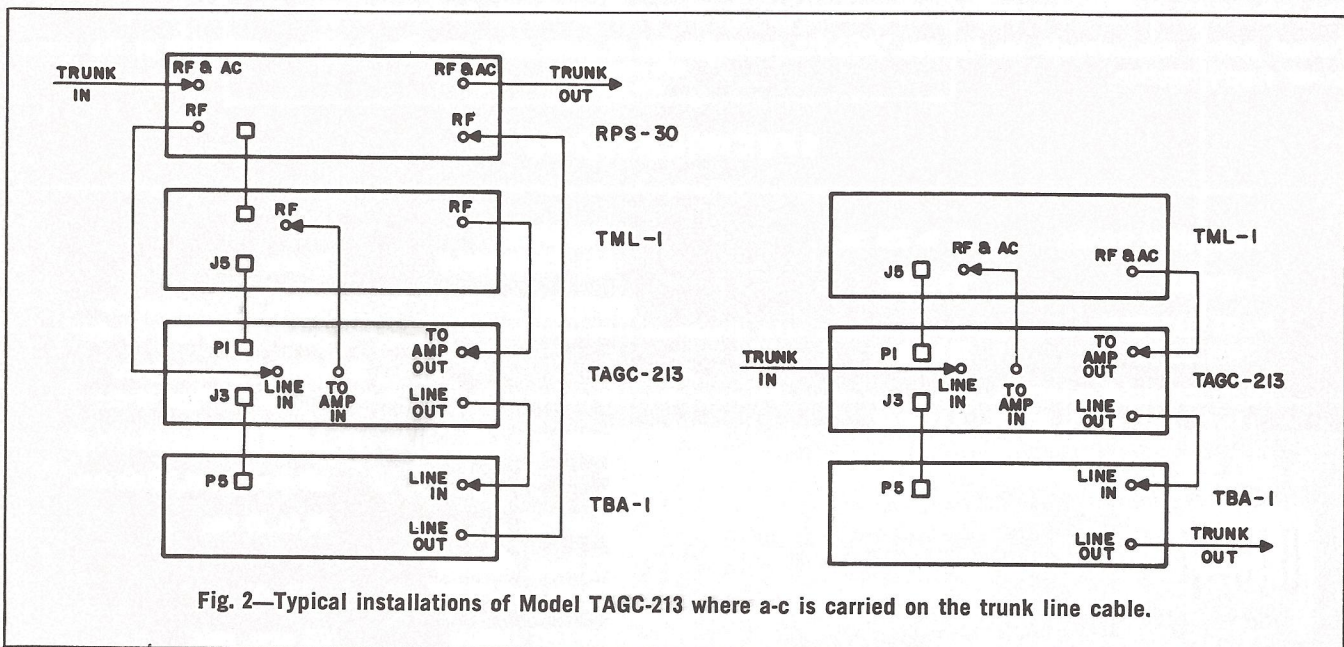

Fig. 2—Typical installations of Model TAGC-213 where a-c is carried on the trunk line cable.
- For cabinet mounting, install the TAGC-213 without the brackets. In both cases place the TAGC-213 beside the trunk amplifier Model TML-1; at bridging amplifier locations install the TAGC-213 between the TML-1 and TBA-1; see fig. 2.
- Interconnect the TAGC-213 as shown in fig. 2 according to the criteria outlined in step 5. Hand-tighten all connectors.